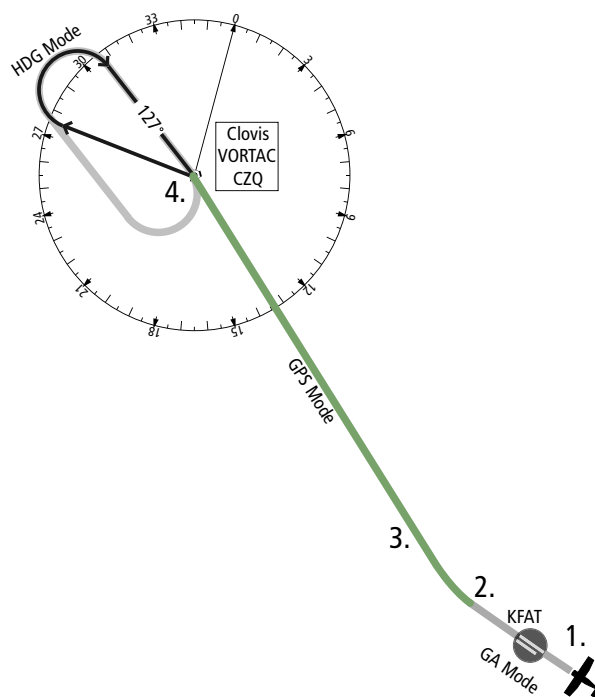

Figure 6-25 Go Around / Missed Approach
- e) Press the **NAV** Key to have the autopilot fly to the MAHP. In this example, the autopilot flies direct to Clovis VORTAC according to the loaded approach (see Figure 6-25).